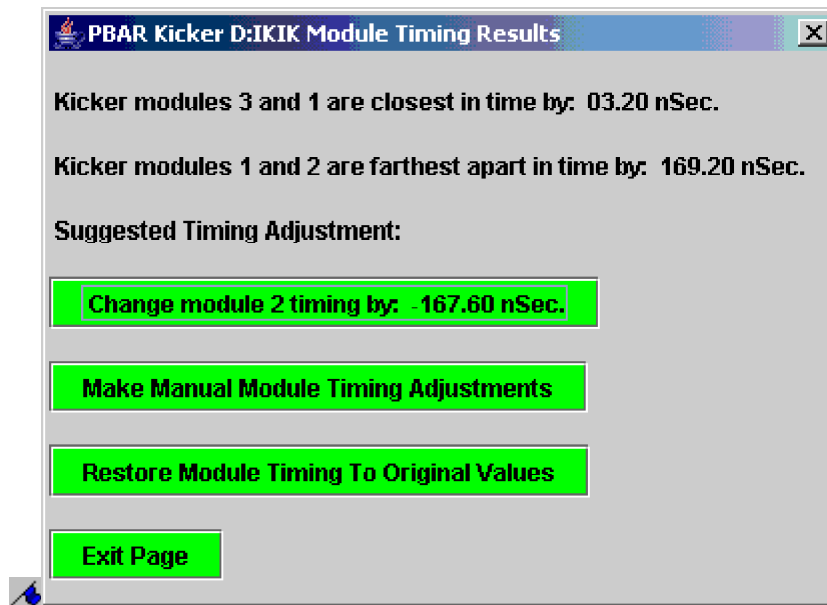

Figure 18:
8. The Timing Results window (see Figure 18) presents the results and suggested tuning options. If the changes look reasonable, then make the suggested changes. It is normal to make ~200nsec changes.